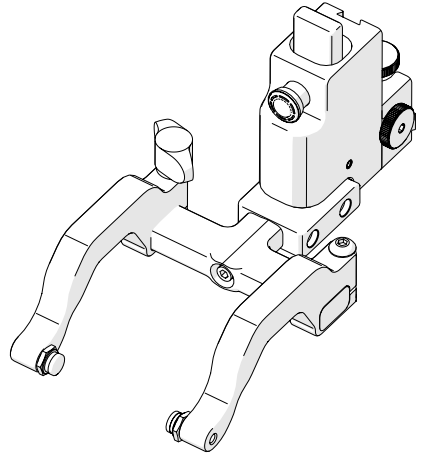

Fig. 53 - 90° probe holder positioning
2. Orient the yoke to the front of the probe holder and screw the yoke into the threaded hole provided (Fig. 53).